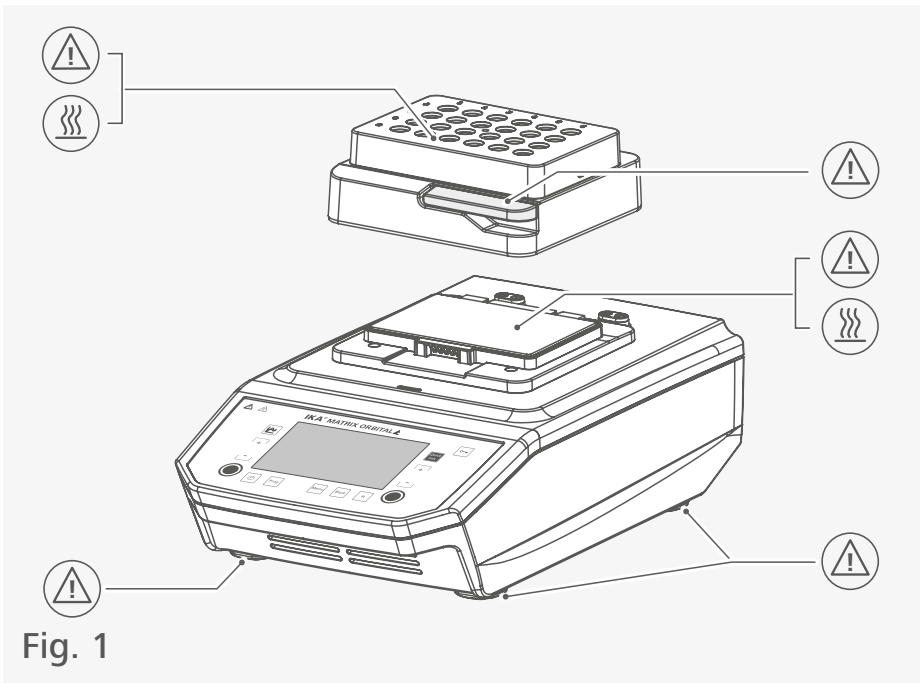

Fig. 1
- > Pay attention to the marked sites in Fig. 1 and Fig. 2.